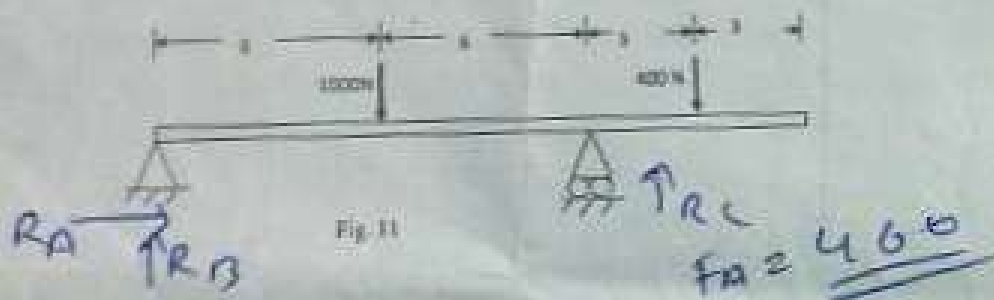

Fig. 11
- (c) An overhanging beam is shown in Fig. 11. Using virtual work principle, find the reactions at both the support. All the dimensions are in m.